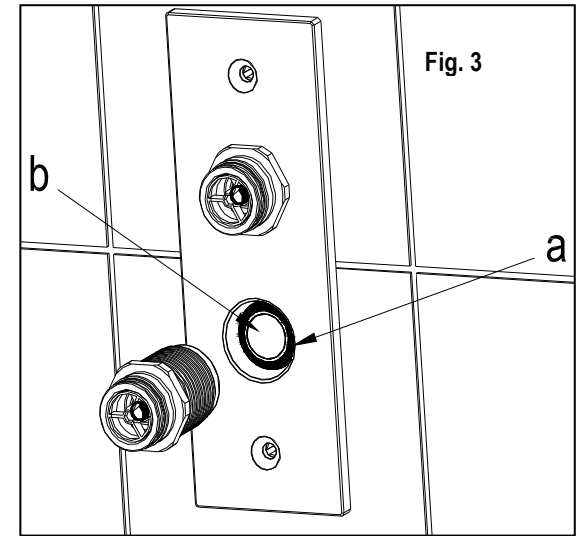

Fig. 3
4.8 Remove plastering shroud (4). **IMPORTANT - DO NOT FIT BACKPLATE UNTIL YOU HAVE RE-CHECKED PIPES ARE FLUSH WITH TILED WALL SURFACE AND NOT PROUD OF THE WALL. PLATE CANNOT BE REMOVED EASILY ONCE FITTED!** If the pipes are proud then they must be shortened. Carefully slide backplate (3) over pipework. Between 15 – 23mm of the pipe needs to locate within the backplate to ensure a seal (measured from the back). If in doubt remove brass inserts (5) by unscrewing anti-clockwise, if both o-rings (a) are located around the pipe (b) then all is fine (see Fig. 3). Carefully screw brass insert back into backplate.